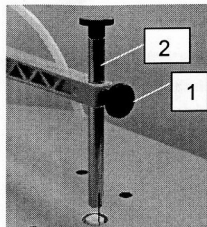

Fig. 2
Slacken the knurled screw (1). Push the upper guide (2) upwards. (Fig. 2).
⇒ Fig. 2